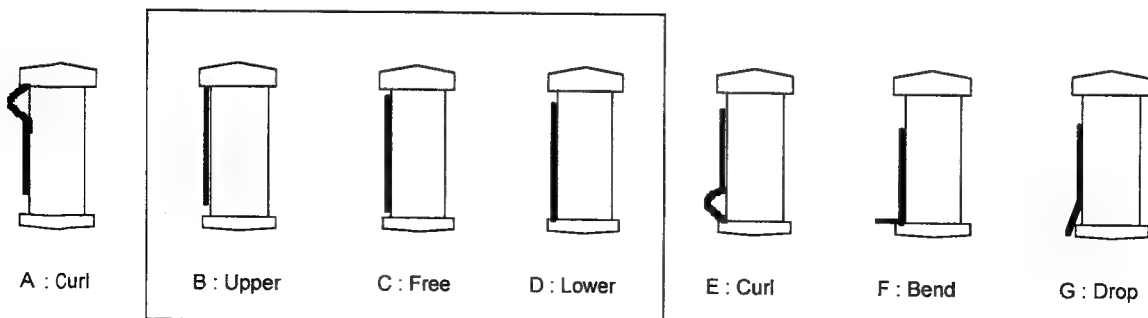

Fig. M-8
3. Confirm the tape pass limit of each post as shown in Fig. M-8.
2. Confirm the tape pass limit of each post as shown in Fig. M-8.
1. Place the unit into Play mode, and confirm the each post limit is in the specification as shown in Fig. M-8.
1. Place the unit into REV mode, and confirm the each post limit is in the specification as shown in Fig. M-8.
1. Place the unit into FF and REW mode, and confirm the each post limit is in the specification as shown in Fig. M-8.